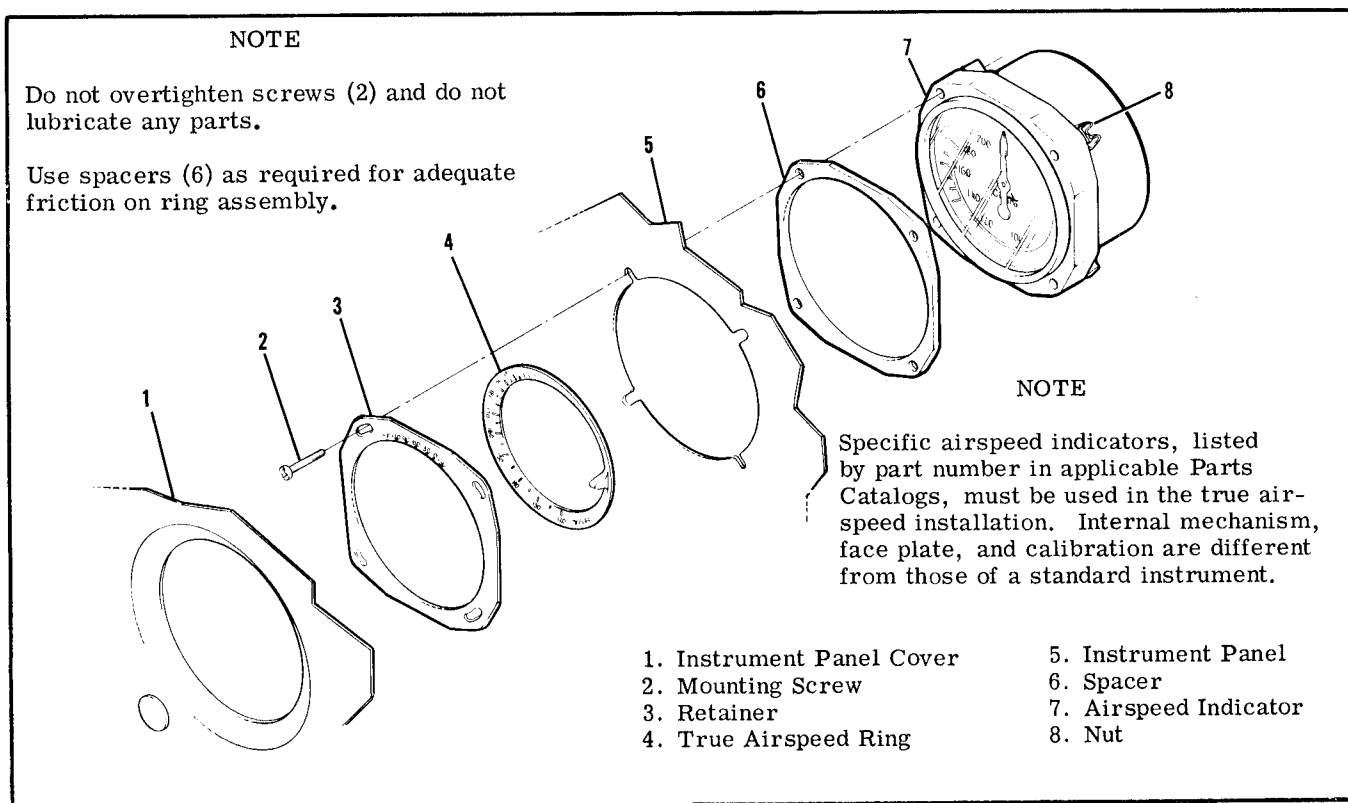

Figure 15-4. True Airspeed Indicator
15-18. TRUE AIRSPEED INDICATOR. A true airspeed indicator may be installed. This indicator, equipped with a conversion ring, may be rotated until pressure altitude is aligned with outside air temperature, then airspeed indicated on the instrument is read as true airspeed on the adjustable ring. Refer to figure 15-4 for removal and installation. Upon installation, before tightening mounting screws (2), calibrate instrument as follows: Rotate ring (4) until 120 mph on the adjustable ring aligns with 120 mph on the in-